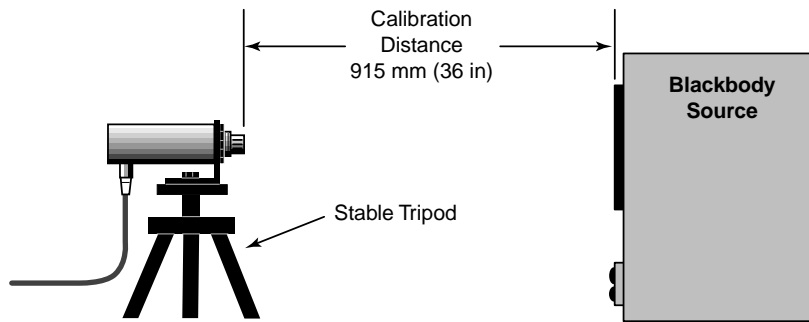

Figure D-1: Calibration Distance
2. Place the sensor on a stable tripod the proper distance from the calibration source (see Table D-1). Blackbody target should completely fill the field of view. The calibration distance is measured from the front of the sensor to the front of the source cavity (see Figure D-1).